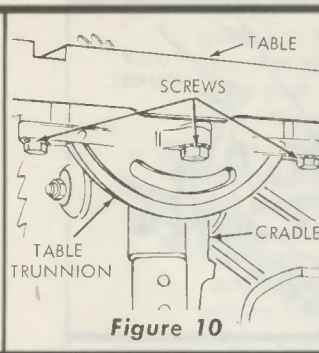

Figure 10
- (5) If measurements are not the same, locate the three screws which secure each table trunnion (front and rear) to the saw table. (See figure 10.) Loosen these screws just enough to permit the trunnion to "slip" when tapped with a mallet or plastic-tipped hammer. (If loosened completely, it would be almost impossible to achieve an accurate adjustment.)
- (6) Shift the two trunnions by tapping them lightly until the two measurements are equal. Tighten trunnion screws and recheck measurements to make sure tightening screws did not alter the setting.